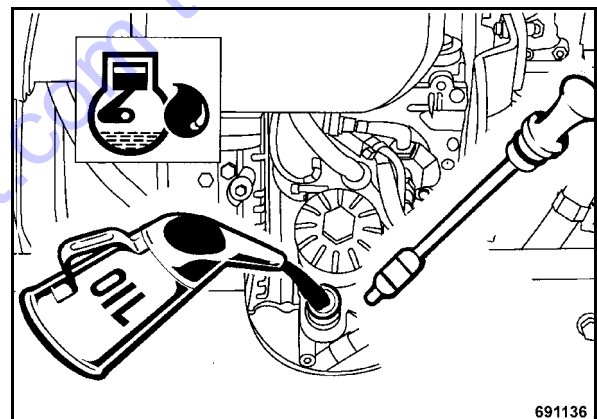

Fig. 63
- Fill in fresh engine oil through the filler opening (Fig. 63).